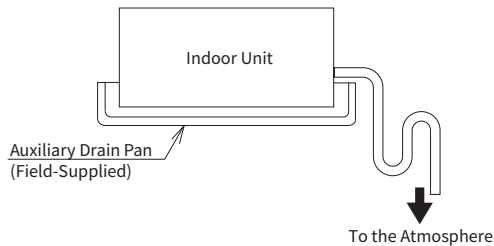

Fig.6.2 Auxiliary Drain Pan
- When the relative humidity of inlet or ambient air exceeds 80%, apply an (field-supplied) auxiliary drain pan beneath the indoor unit as shown in Fig.6.2.